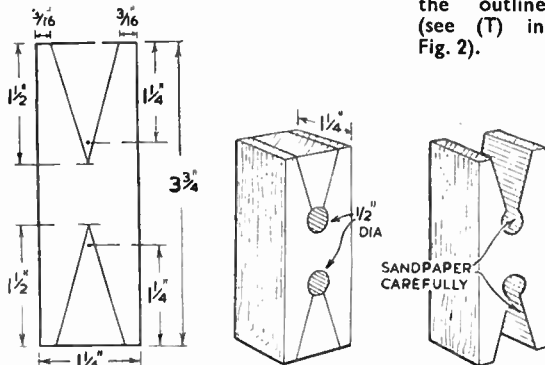

Fig. 1—Marking out, and cutting the clown block
The toy is by no means difficult to make, nor will it take long to construct. Fig. 1 shows three stages in making the clown block. A piece of wood of $1\frac{1}{2}$ ins. by $1\frac{1}{4}$ ins. section and $3\frac{3}{4}$ ins. long is
marked out, as in Fig. 1 (A). Holes, $\frac{1}{2}$ in. diameter, are then bored through, as seen in (B) Fig. 1, and finally the block is gripped in the vice and the wedge-shaped pieces cut out with a tenon saw. It is most important to get these openings quite smooth. Bored holes may be rough, so it will be necessary to get busy with the glasspaper.